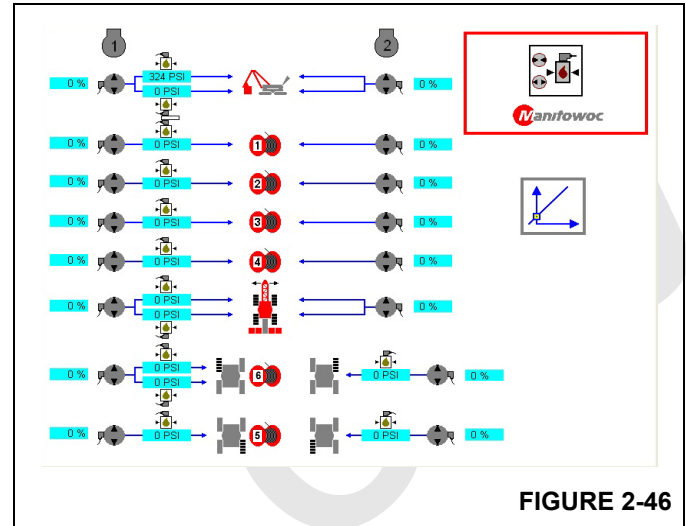

FIGURE 2-46
4. Next, press  to make the Pressure Test and Calibration Test screen appear. (Figure 2-46).